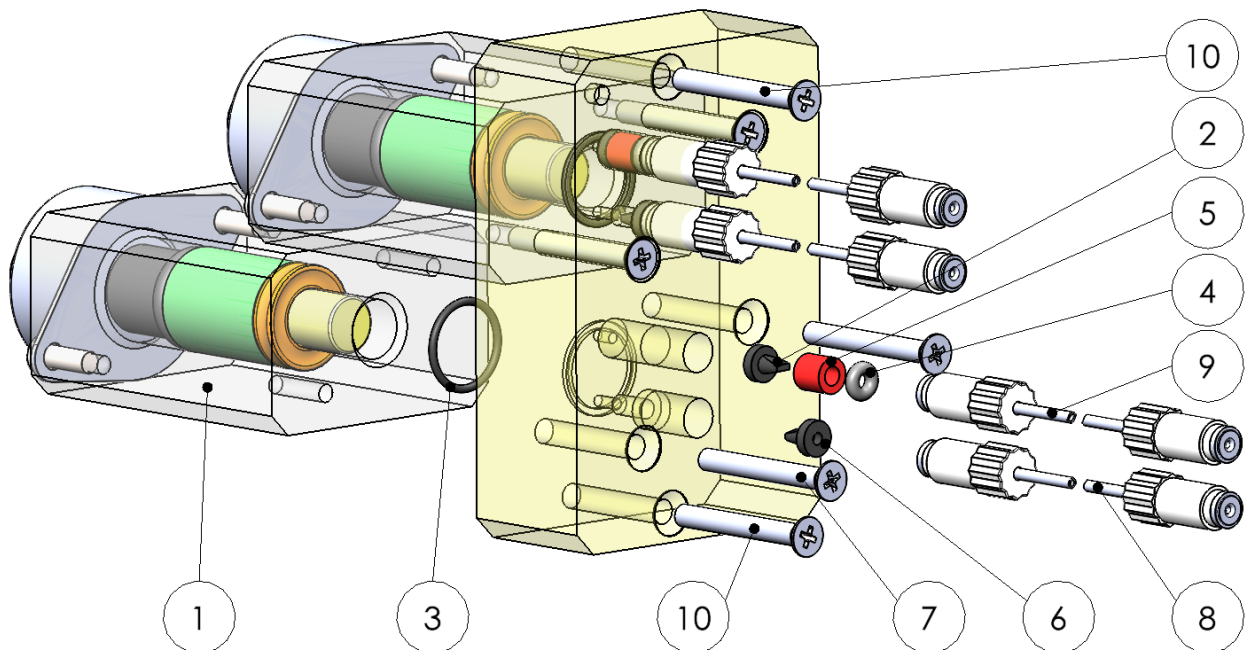

Figure 1
The expansion kit (item no. 40681) for installing a second pump for the cleaning function consists of the following components (see Figure 1):
Proceed as follows to remove the individual pump and then install the two pumps. Refer to Figures 1 to 6:
7. Remove the hose (12) from the indicator bottle.
8. Remove the hose (13) from the measuring chamber.
9. Remove the two screws (10) using the Phillips screwdriver (see Figure 1).
1. Press the spring (1) together so that the spike becomes visible.
2. Thread the components for installing the valve onto the spike (refer to Figure 1).